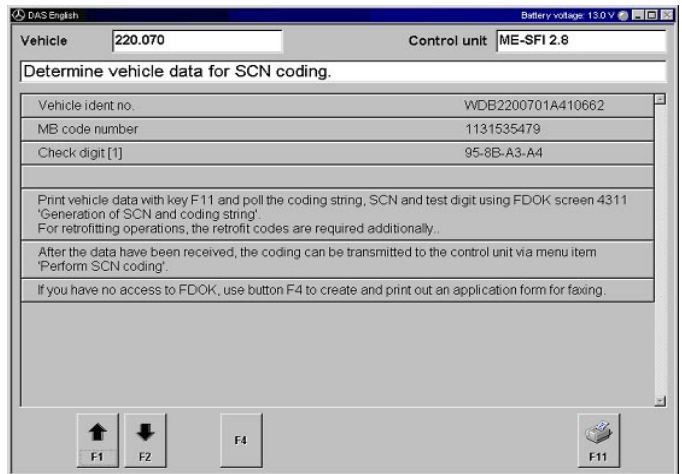

Figure 2
2. Print out vehicle data for SCN Coding by pressing 'F11' (Figure 2)